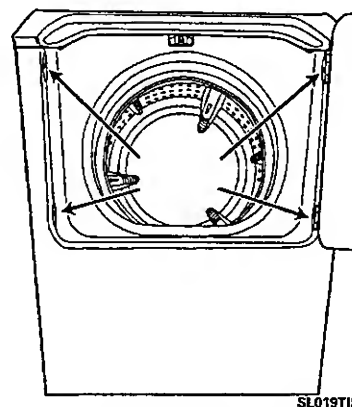

Figure 5-3
2. Open the door and remove the four screws along the inside lip of the door opening. The two that are located vertically, on either side of the door opening, secure the front panel to the front shroud assembly (*Figure 5-3*). Care should be taken when opening and closing the door with the screws removed.